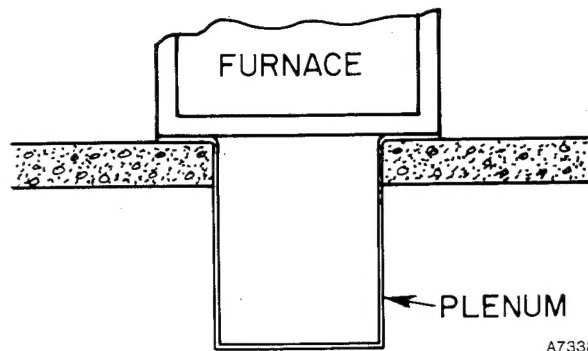

Figure 5—Furnace on a Concrete Slab
- Place plenum and furnace as shown in Figure 5.